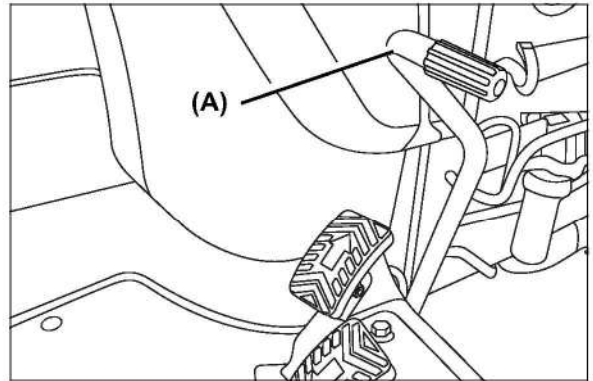

Fig 5-18
#### (1) Brake pedal (Fig 5-18, A)